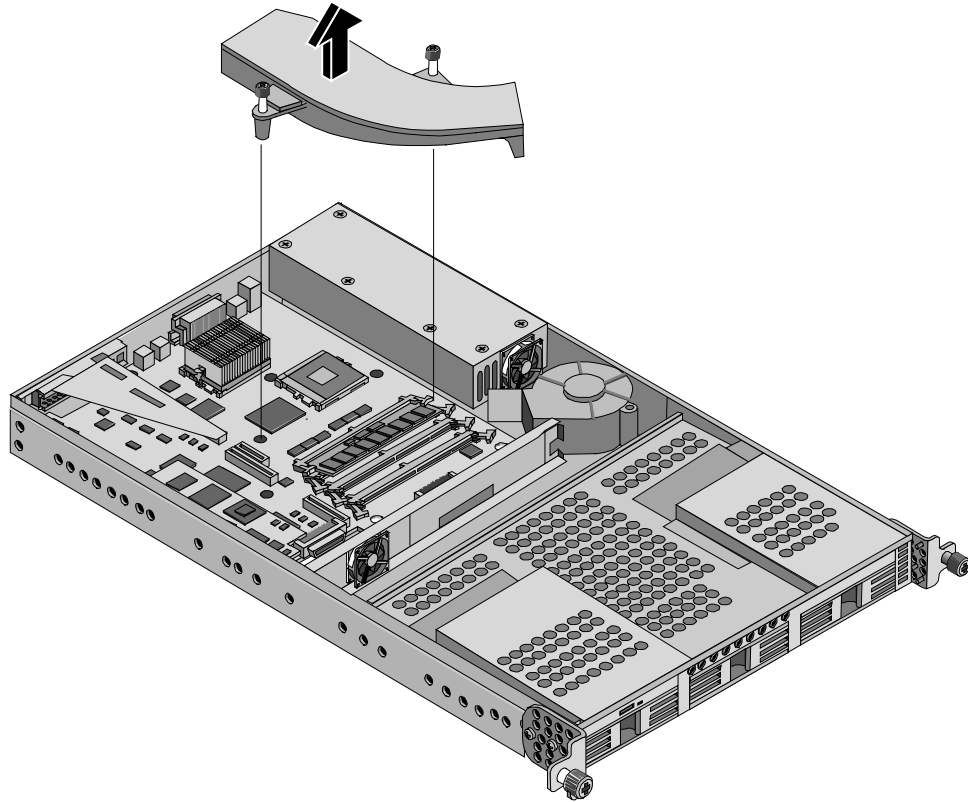

Figure 2-4. Removing the Air Duct
1. Loosen the two captive screws holding the air duct to the system board. See Figure 2-4.